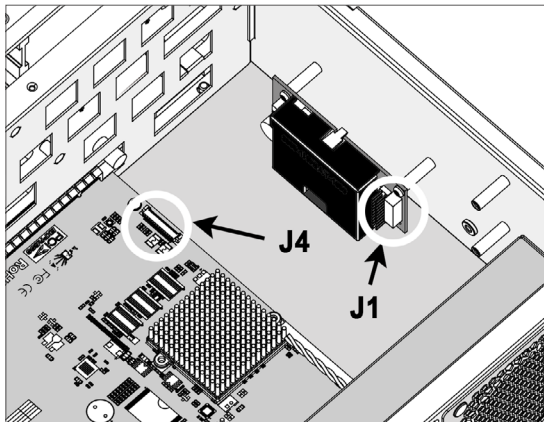

Figure B-4, Insert the cable connector into J1 & J4
3. Insert the cable connector into the **J1** (12-pin box header battery connector on ARC-6120-BAT121-7 module), and also insert another side of the cable connector into the **J4** (14-pin box header battery connector on ARC-8050T3 SAN backplane), as shown in Figure B-4.